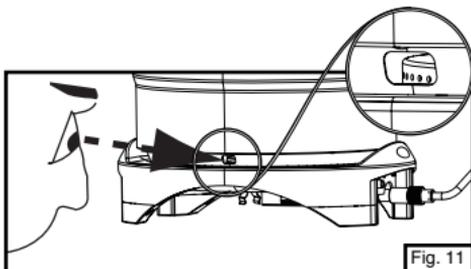

Fig. 11
- Carefully view the burner flame through the observation hole. The burner is located inside at the bottom of the cooker base. (Fig. 11)